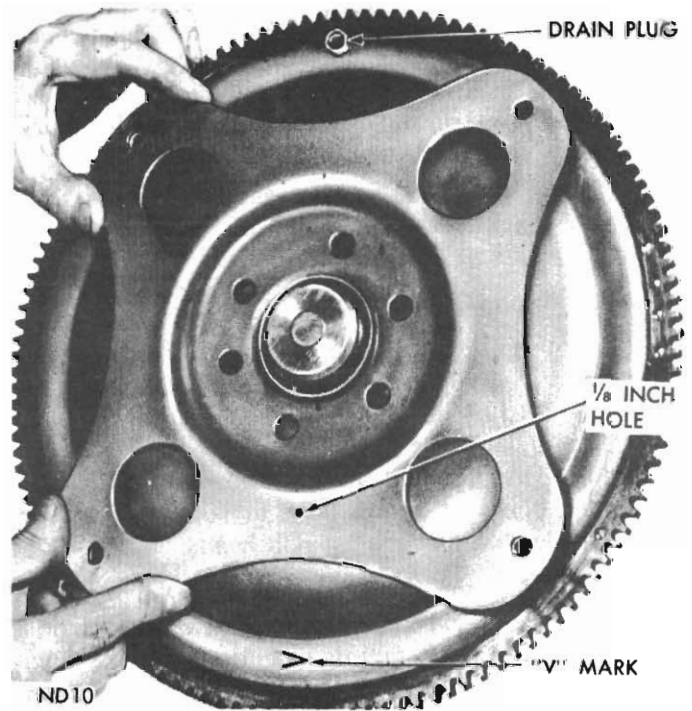

Fig. 105 - Converter and drive plate marking
(6) Rotate converter so mark on converter (made during removal) will align with mark on drive plate. The offset holes in plate are located next to  $\frac{1}{8}$  inch hole in the inner circle of plate. A stamped V mark identifies the offset hole in converter front cover (*Fig. 105*). Carefully work transmission assembly forward over engine block dowels with converter hub entering the crankshaft opening.
(7) After transmission is in position, install bell housing bolts and tighten to 28 lbs. ft.
(8) Install and tighten the two lower drive plate to converter bolts to 270 lbs. in.
(9) Install starting motor and connect battery ground cable,
(10) Rotate engine with remote control switch and install the other two drive plate to converter bolts. Tighten bolts to 270 lbs. in.
(11) Install crossmember and tighten attaching bolts.
(12) Lower transmission so extension housing is aligned and rests on rear mount. Install bolts and tighten.
(13) Install gearshift torque shaft and connect gearshift rod to the transmission lever.
(14) Carefully guide sliding yoke into extension housing and on the output shaft splines. Align marks made at removal then connect propeller shaft to rear axle pinion shaft yoke.
(15) Connect oil cooler lines to the transmission and install oil filler tube. Connect the speedometer cable.